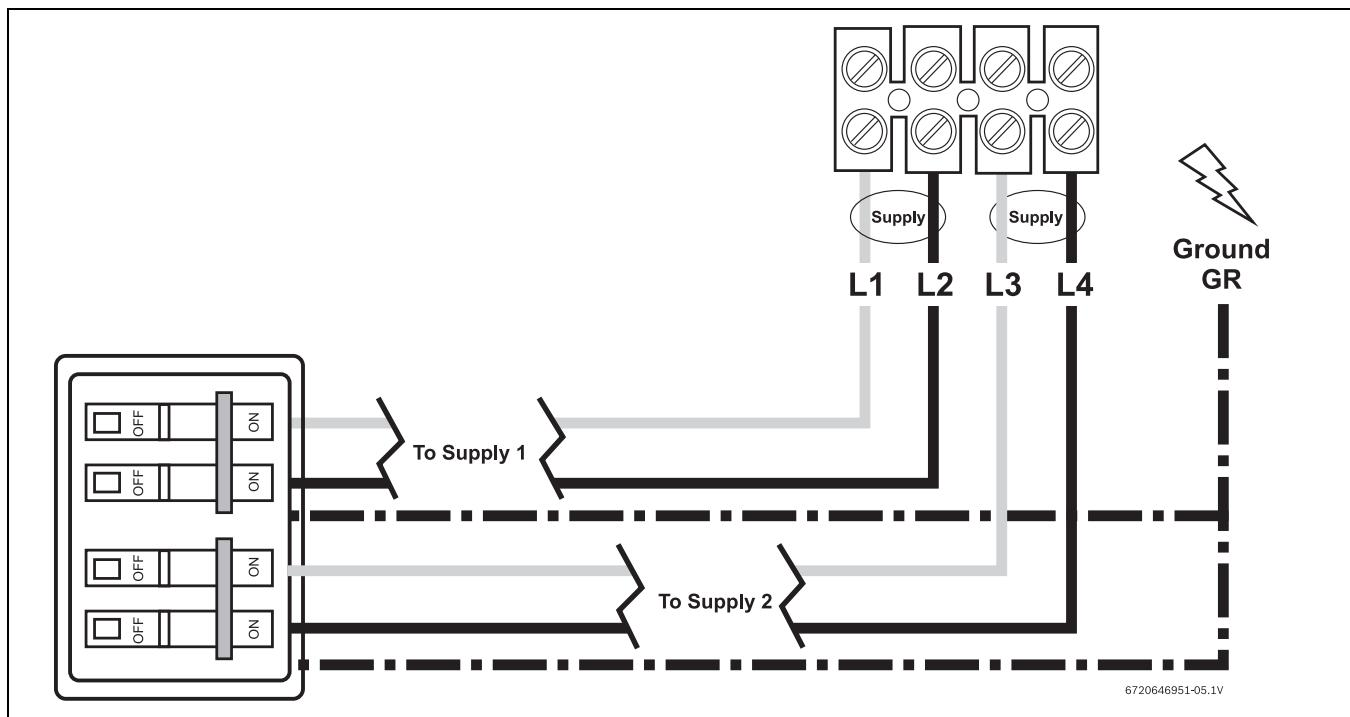

Fig. 7 WH17 terminal block connection (U.S.A. only)
- Strip back the insulation on the power wires about ½ inch. Connect the live wires to the terminals marked "L1" and "L2." There are two pairs of live wires in the WH17 and three pairs of live wires in the WH27. (See Fig. 7 and Fig. 8, page 16).
- Any insulation on the ground wires should be stripped back about ¾ inch. The ground leads must be connected to the pillar terminal marked "GR". (See Fig. 7 and Fig. 8, page 16).